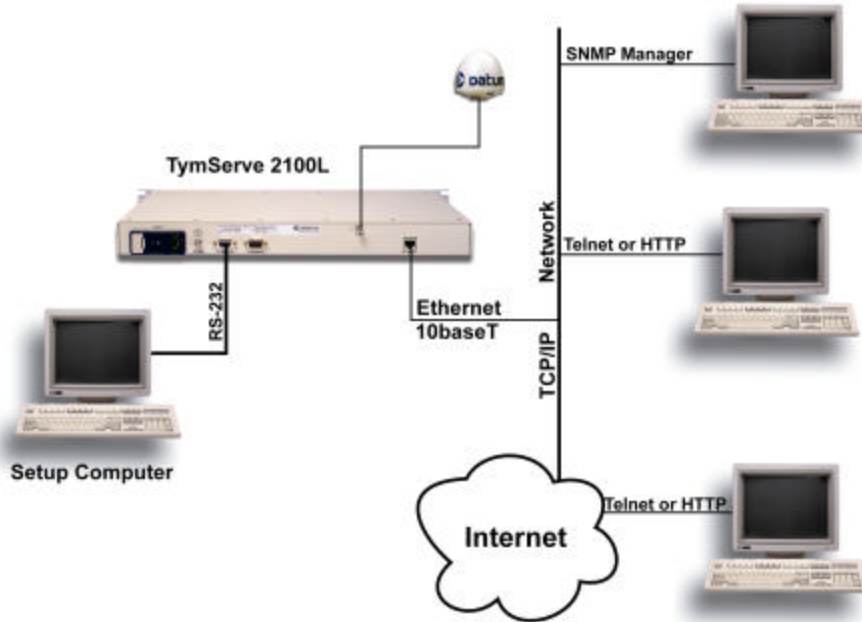

Figure 2-5 Typical Connection for TymServe 2100L
- Connect setup computer to serial port B of the TymServe with a straight through RS232 serial cable. See Figure 2-5 for a typical connection setup.